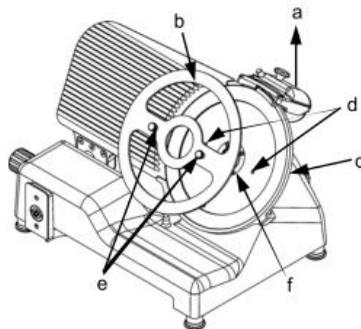

Fig. 32
- Remove the sharpener from the device (a, fig. 32);
- Open the movable slice thickness wall (16) using the slice thickness adjustment (11) in order to place the tool for blade replacement on the blade (1) (b, fig. 32);
- Place the tool for blade replacement (b, fig. 32) on the blade (1) and adjust to the protective ring (c, fig. 32);
- The blade openings (d, fig. 32) must fit the two pins of the tool for blade replacement (e, fig. 32), to achieve it, turn the blade (1) until this position is reached;
- Slightly screw in the two pins of the tool for blade replacement (e, fig. 32);
- Undo the four screws (f, fig. 32) locking the blade(1) using a relevant screw driver;
- Remove the blade (1) with the tool for blade replacement (b, fig. 32);
- Clean the back side of the blade (1) and the blade protective ring (3) with a damp cloth and neutral cleaning agent.
- After cleaning, attach the blade (1) to the device using the 4 screws (f, fig. 32), blade protective ring (3) and blade guard (2) maintaining the correct position.